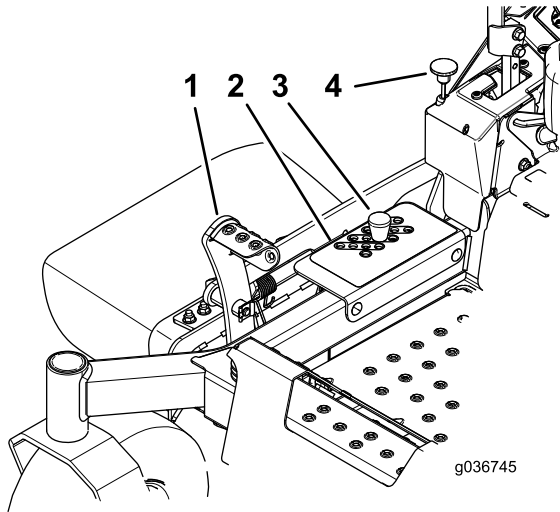

Figure 33
2. Push on the deck-lift pedal with your foot and raise the mower deck to the TRANSPORT position (also the 127 mm or 5 inch cutting-height position) as shown in Figure 33.
3. Remove the pin from the height-of-cut bracket (Figure 33).
4. Select a hole in the height-of-cut bracket corresponding to the height-of-cut desired, and insert the pin (Figure 33).